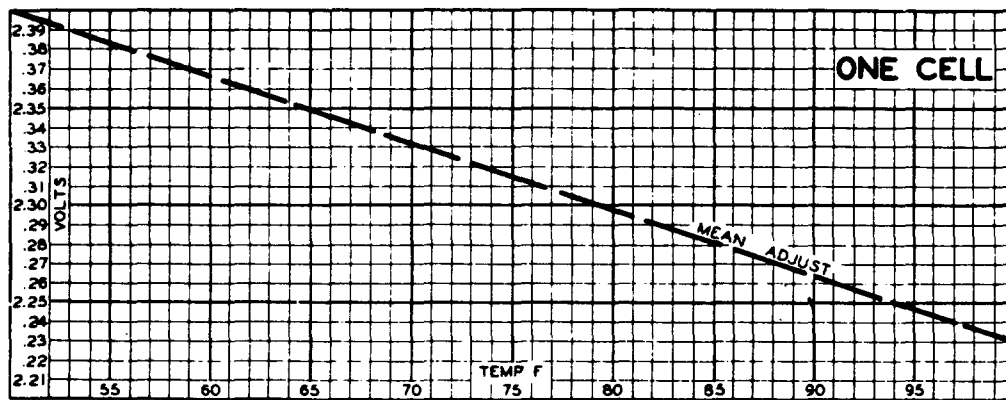

Fig. 6 – 253A and 253B Relays in Series with Rheostat — Operate Limits per Cell Basis for Charge Rates of 10 to 35 Per Cent of 8-Hour Discharge Rate of Battery
2.03 **The 253A and 253B relays for batteries with rheostats** in the relay coil circuit to reduce the charge, shall meet the operate values shown on a per cell basis in Fig. 6 unless otherwise specified on the circuit requirements table.
(2) Check the operate voltage of the relay and readjust the rheostat as required to give the proper operate voltage for the temperature of the relay as shown on a per cell basis in Fig. 6.
(3) If the specified voltage cannot be obtained by adjustment of the rheostat, check the circuit connections and mechanical requirements and make any necessary adjustments.